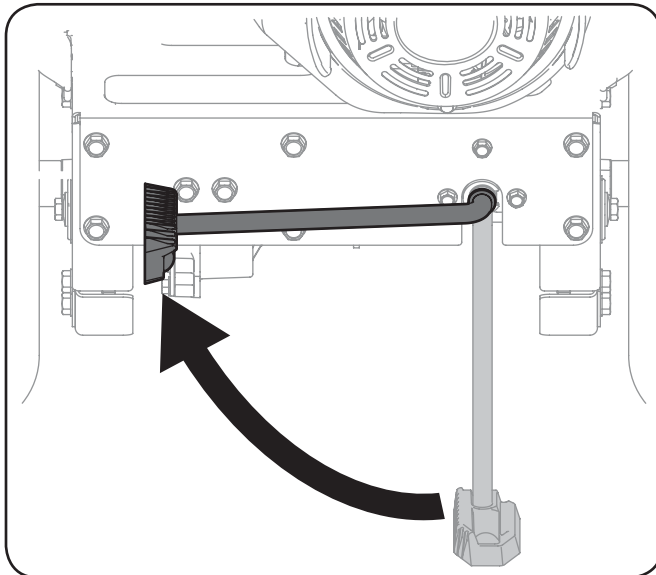

Figure 5-1
1. With the kickstand UP on the FLEX™ Power Base, as shown in Figure 5-1, roll it over to the pressure washer attachment.